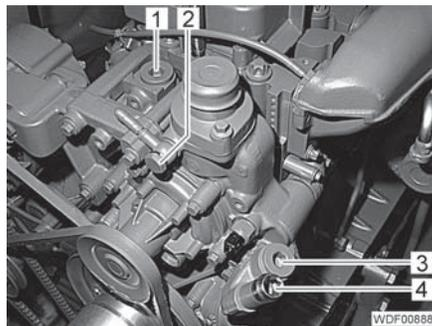

Fig. 27 Connections of the cooling system
- Unscrew the 2 plugs (Fig. 27,1 and 3).
- Unscrew the screw (Fig. 27,2).
- Unscrew the connection (Fig. 27,4).